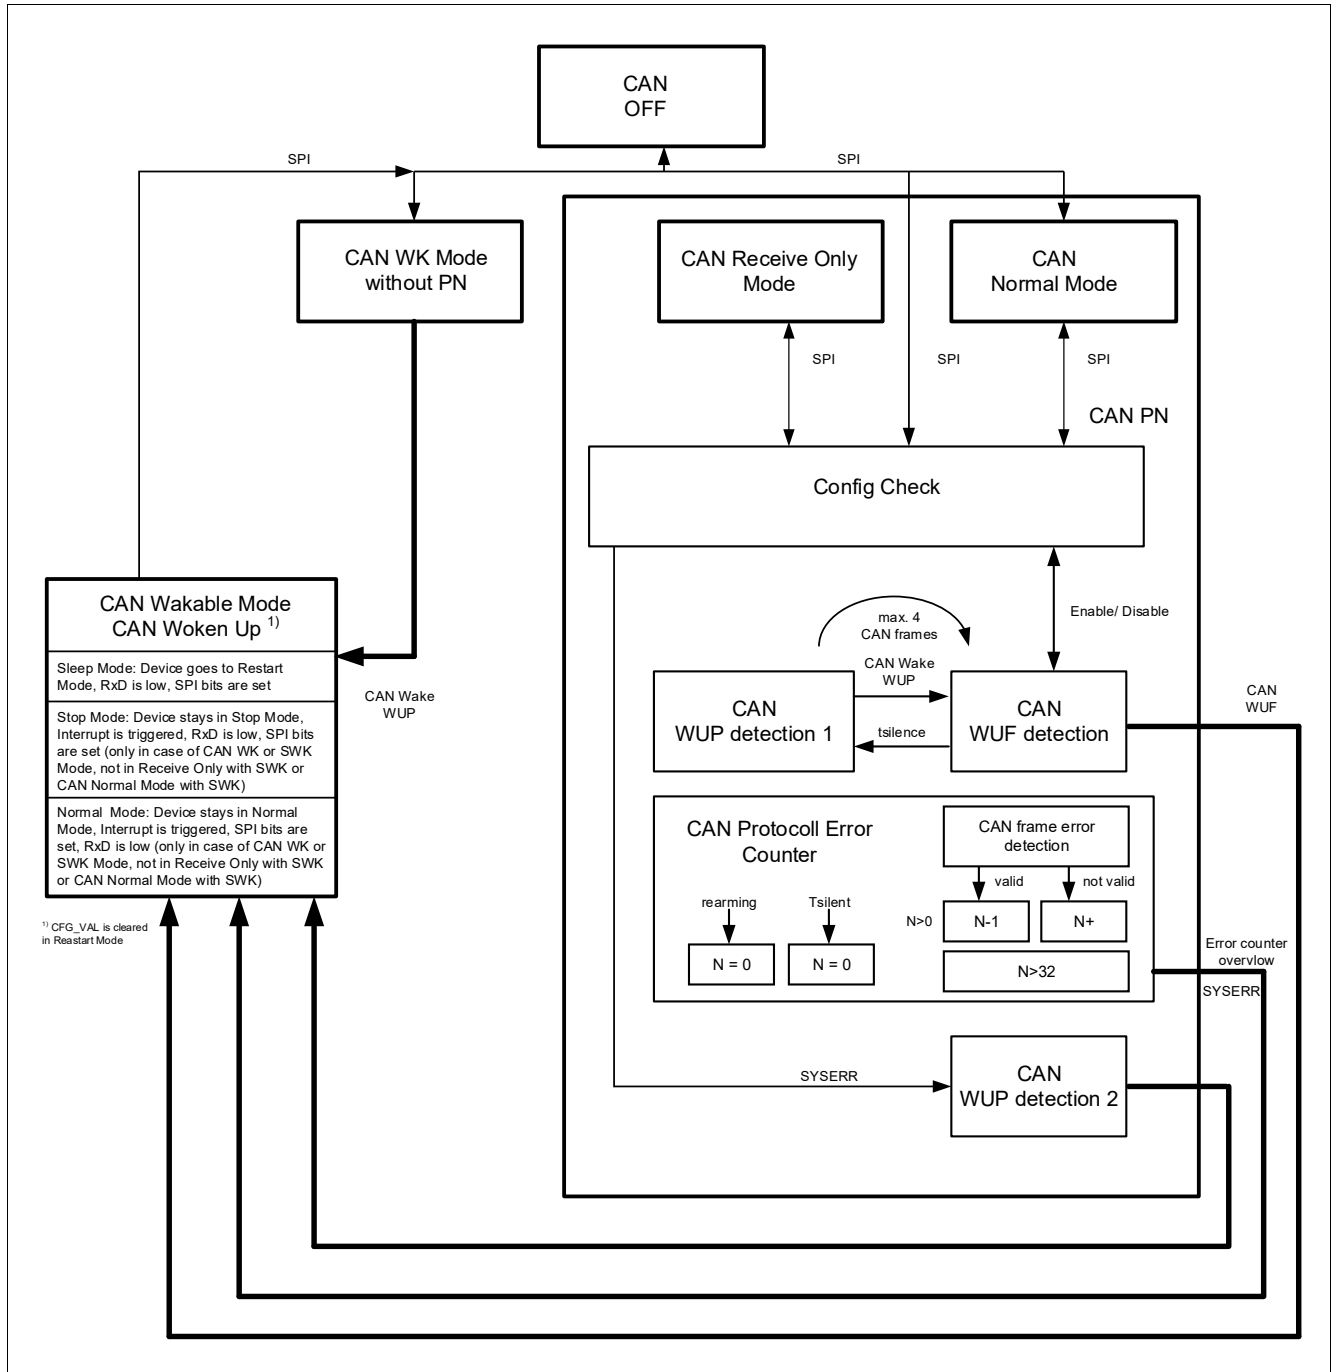

Figure 22 CAN Selective Wake State Diagram
*Note: It is possible that WUF and WUP bit are set at the same time if a WUF causes a wake out of SWK, by setting the interrupt or by restart out of Sleep Mode. The reason is because the CAN has been in WUP detection 1 state during the time of CAN SWK Mode (because of  $t_{\text{SILENCE}}$ ). See also **Figure 22**.*
The SWK\_SET bit is set to signalize the following states (see also **Figure 22**):